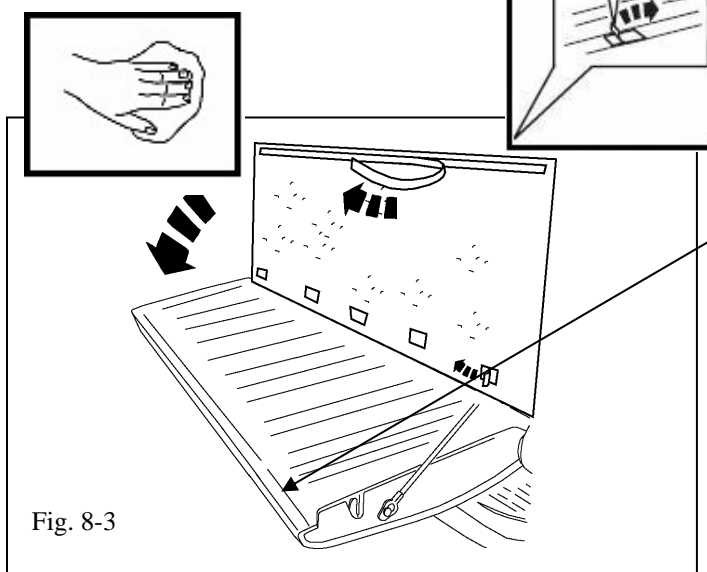

Fig. 8-3
- (e) Remove the film and align the edge of the BedRug tailgate section to the top edge of the tailgate. (Fig 8-3)